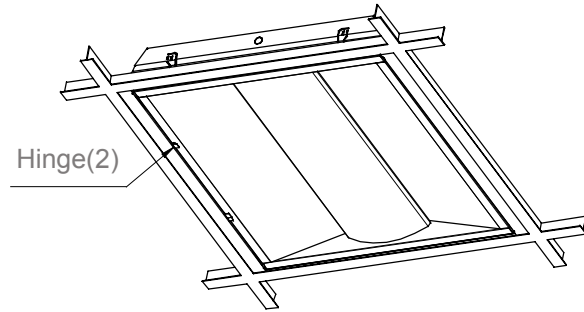

Figure 4
- Close the TRK fixture and secure it with the Hinge (2). (See Figure 4)